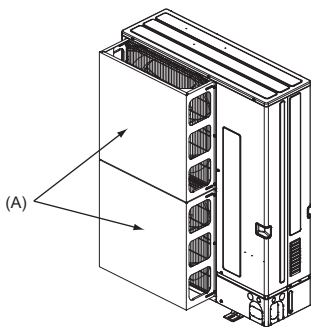

Fig. 2-4
- (2) Install an optional air protect guide if the unit is installed in a location where strong winds from a typhoon, etc. may directly enter the air outlet. (Fig. 2-4)